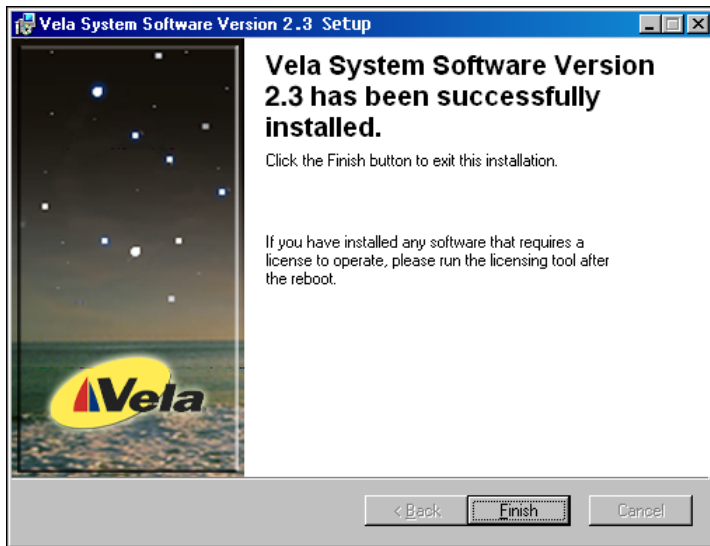

Figure 1-6. Installation Wizard Completion Screen
7. (Figure 1-6) The Install Wizard notifies you that the install is complete and that it is necessary to restart your system in order for the installation to take effect. Click OK to reboot.